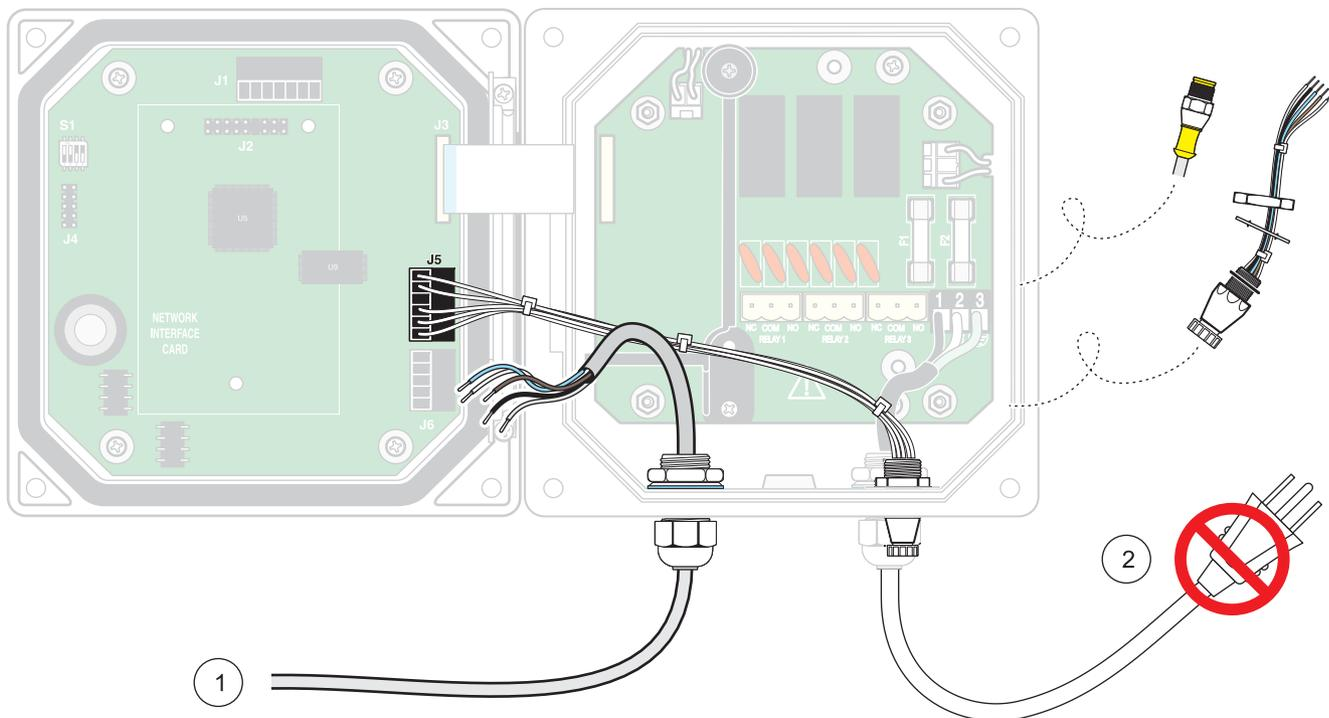

Figure 10 Hard-wiring the sensor (only sc100)
4. Remove the quick-connect fitting and the wires and install the threaded plug in the opening to maintain the environmental rating (see Figure 10 on page 15).